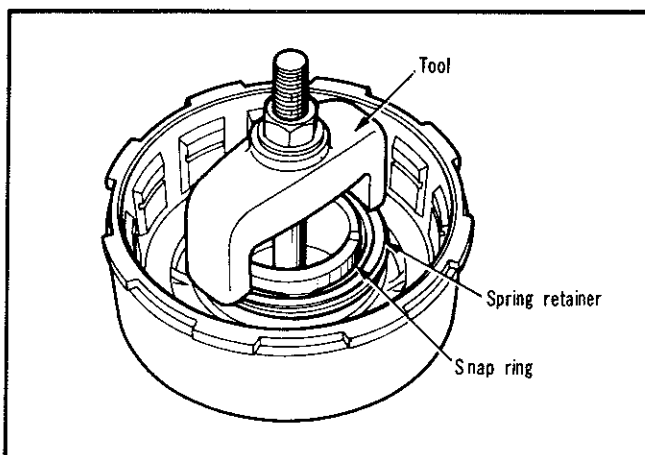
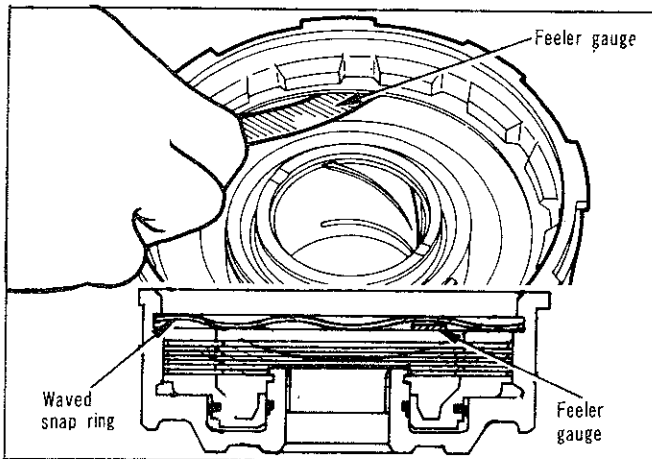

Fig. 49—Removing or installing front clutch spring retainer snap ring
Fig. 51—Measuring front clutch plate clearance
(1) Remove large waved snap ring that secures pressure plate in the clutch piston retainer. Lift pressure plate and clutch plates out of the retainer.
(2) Install compressor Tool E21C30C over piston spring retainer (Fig. 49). Compress spring and remove snap ring, then slowly release tool until spring retainer is free of the hub. Remove tool, retainer and spring.
(3) Invert clutch retainer assembly and bump it on a wood block to remove the piston. Remove seal rings from the piston and clutch retainer hub.
(3) Place spring on piston hub and position spring retainer and snap ring on the spring. Compress spring with Tool E21C30C (Fig. 49), and seat snap ring in hub groove. Remove compressor tool.
(4) Lubricate all clutch plates, install one steel plate followed by a lined plate until all plates are installed. Install pressure plate and waved snap ring. Make sure snap ring is properly seated.
(5) With front clutch completely assembled insert a feeler gauge between pressure plate and snap ring (Fig. 51), refer to specifications for clearances.